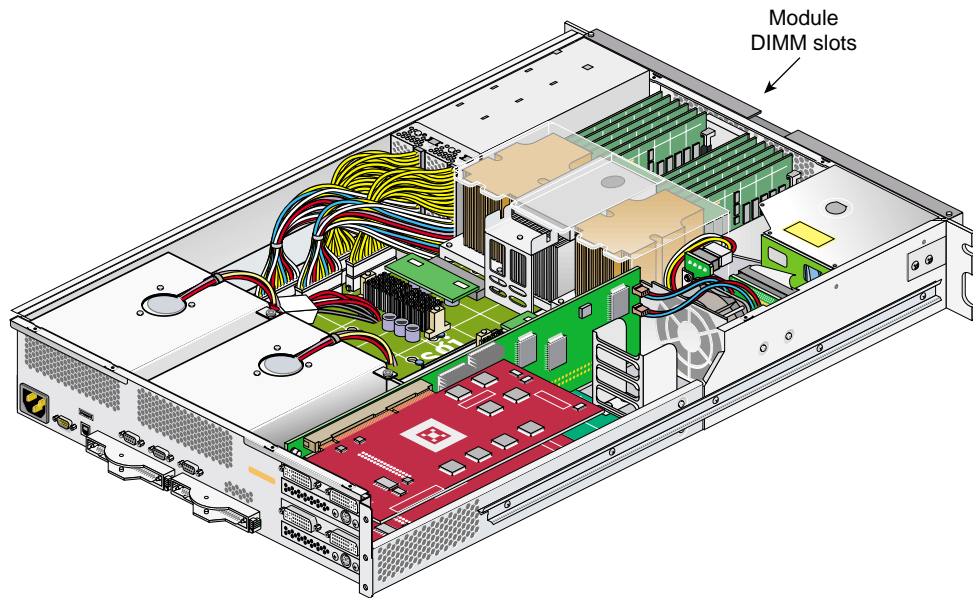
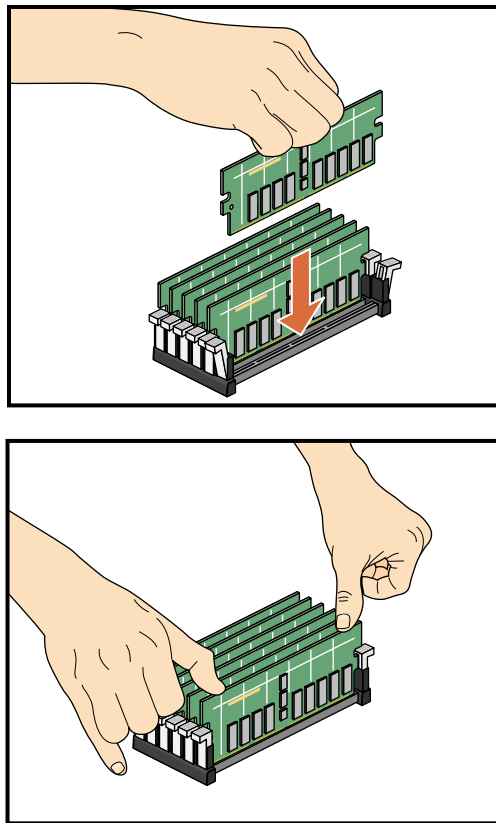
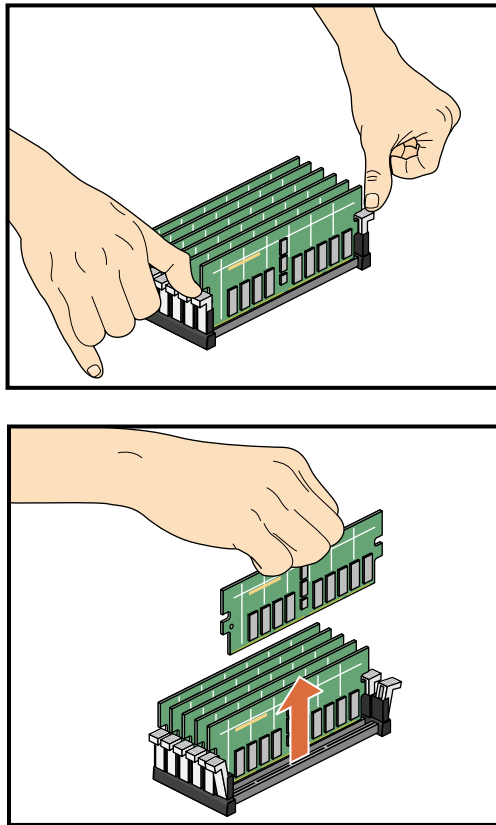

Figure 4-24 DIMM Locations (XG2N Module Shown, Others Similar)
Figure 4-25 Inserting a DIMM
Figure 4-26 Removing a DIMM
6. Install the DIMMs, as follows (see Figure 4-24 and Figure 4-25):
- e. When the DIMM is fully seated in the connector, the ejector latches snap into place flush with each end of the DIMM, see Figure 4-25.
6. Remove the DIMM, as follows (see Figure 4-24 and Figure 4-26):